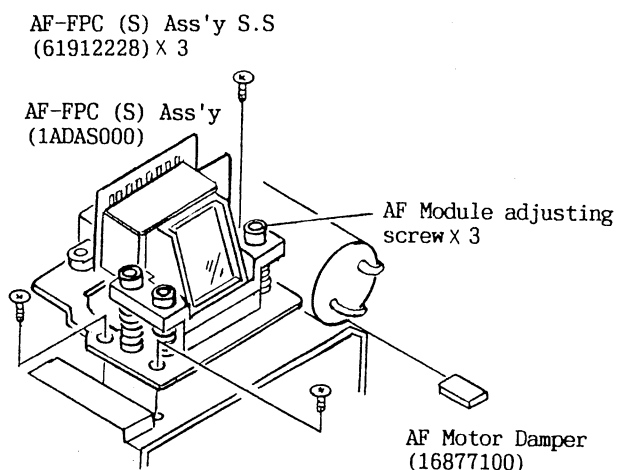

Fig.46
- 3) Remove the AF Motor Damper (16877100). (See Fig.46)
- 4) Remove the AF-FPC (S) Ass'y Setscrews (61912228) x 3 and the AF-FPC (S) Ass'y (1ADAS000).
- a) Never turn the AF Module adjusting screws; otherwise, the AF Module can be dislocated, thus causing Auto Focusing trouble. (See Fig. 46)